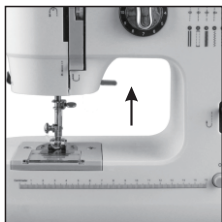

Fig. 7
2. Raise the presser foot lifter and place the fabric you want to sew under the presser foot (Fig. 7 ).